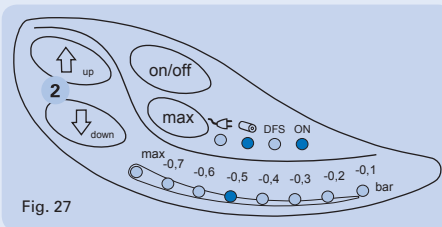

Fig. 27
2. Set your desired vacuum via the arrow keys (fig. 27 (2)). When the device is switched off later, the last set value is saved.